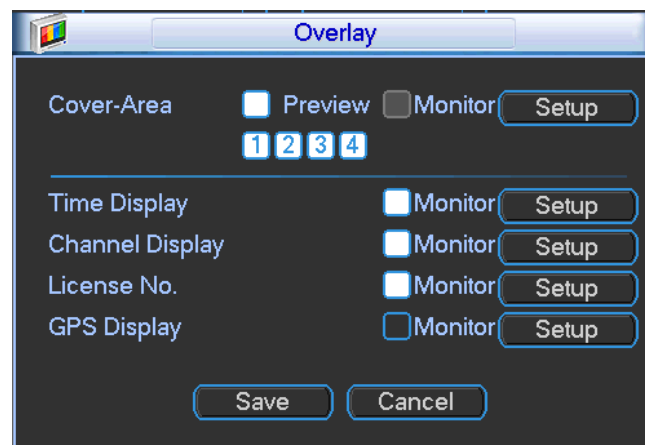

Figure 4-44
- Overlay: Click overlay button, you can see an interface is shown in Figure 4-44. Please note the following overlay titles can not be in the same position. **Please note only the unit of GPS module supports GPS overlay function.**